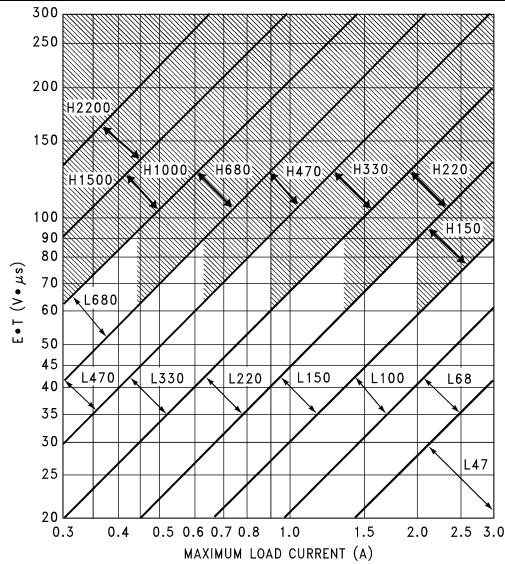

**Figure 29. LM2576(HV)-12**
1. Select the correct Inductor value selection guide from Figure 27, Figure 28, Figure 29, or Figure 30. (Output voltages of 3.3 V, 5 V, 12 V or 15 V respectively). For other output voltages, see the design procedure for the